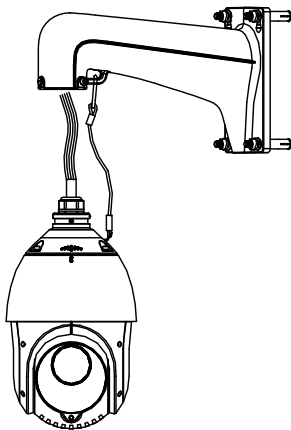

Figure 2-5 Safety Rope
- 1) Hook the end of the safety rope to the speed dome back box and the bracket respectively as shown in Figure 2-5.